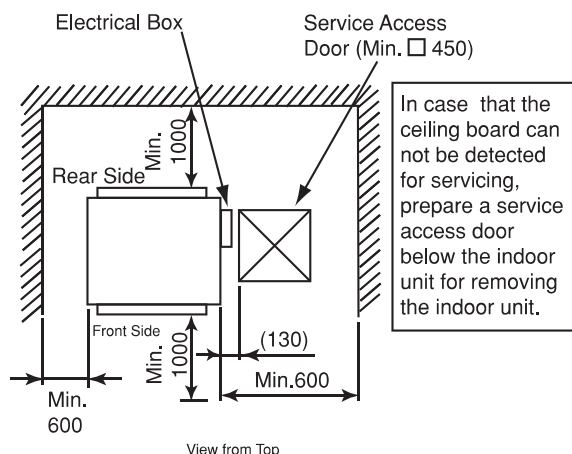

Fig. 4.1 Operation and Installation Space
- Install the indoor unit with a proper clearance around it for operation and maintenance working space, as shown in Fig. 4.1.